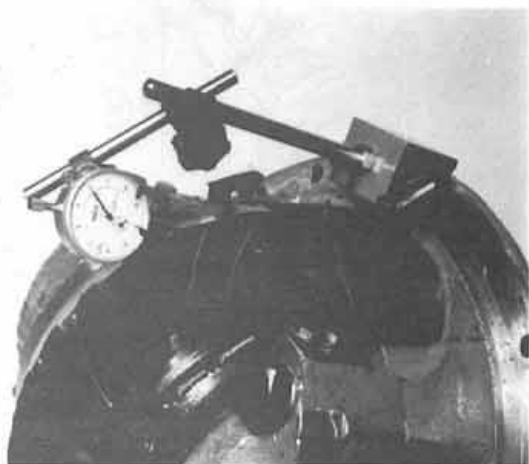

Figure 17
**NOTE:** Check the backlash of the ring gear and pinion before disassembly of the differential assembly. Backlash should be reset the same if the original gears are replaced. [See figure 17]